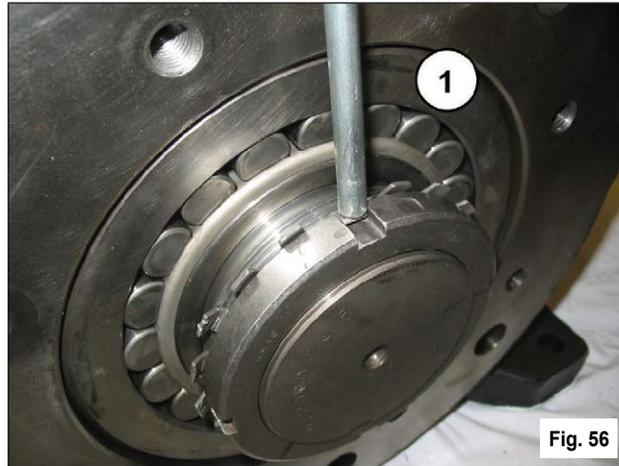

Fig. 56
Unscrew the ring nut, insert the safety washer (1, fig. 54) and completely screw the ring nut (1, fig. 55); then fold the washer's locking key (1, fig. 56).